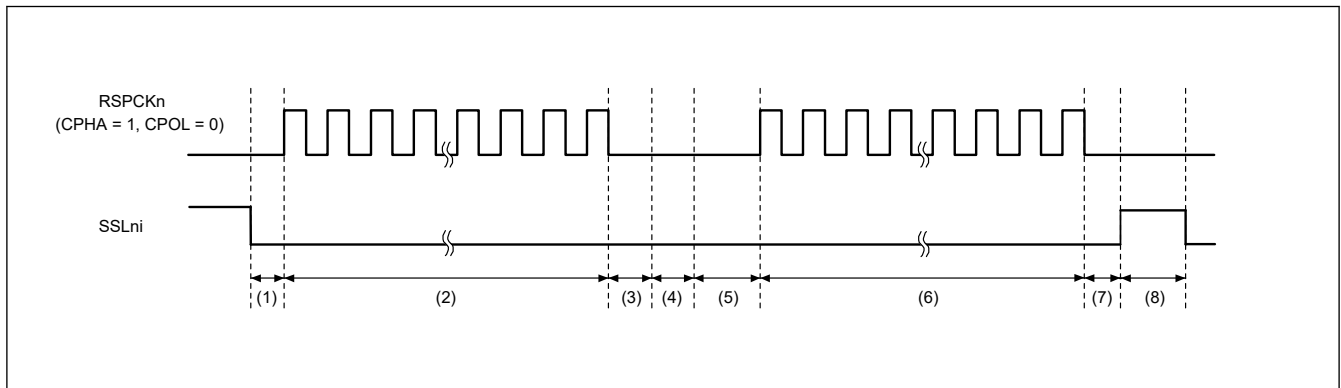

Figure 44.57 Example of burst transfer operation using the SSLKP bit (BFDS = 0, SPFRF = 0)
Figure 44.57 shows an example of an SSLni signal operation for a burst transfer that is implemented using the SPCMD0 and SPCMD1 register settings. This section describes SPI operations (1) to (8) shown in Figure 44.57.
If the SSLni signal output settings in the SPCMDm register where 1 is assigned to the SSLKP bit are different from the SSLni signal output settings in the SPCMDm register to be used in the next transfer, the SPI switches the SSLni signal status to SSLni signal assertion as shown in (5) in Figure 44.57. This corresponds to the command for the next transfer.